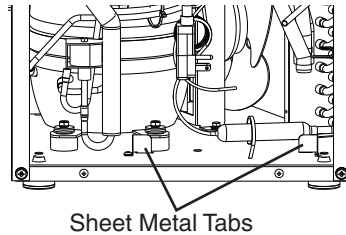

Fig. 2
- 3) If sheet metal tabs are present on your unit, remove them. See Fig. 2.